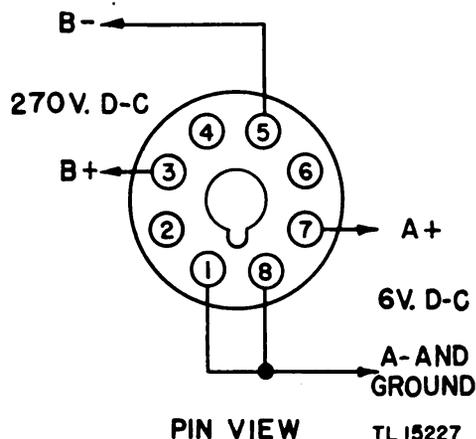

Figure 3. Radio Receiver BC-787-B, wiring diagram for d-c power plug.
**a. A-c Operation.** The receiver may be operated from either a 115-volt or 230-volt, 50/60-cycle, a-c power source. Check the setting of switch SW10, shown in figure 4, and see that it is set for the line voltage to be used. If the set is to be operated from an a-c line, plug PL2 (furnished wired as shown in figure 22) must be in socket S01 located on the rear apron of the chassis. This is necessary to provide continuity in the power circuits (figs. 3 and 22).
**b. D-c Operation.** The receiver may be operated from external batteries delivering 6 volts at 4.5 amperes and 270-volts at 145 milliamperes. If such operation is desired, connect the batteries to the unwired duplicate of plug PL2 (furnished as an accessory) as shown in figure 3. This plug should then replace plug PL2 in socket S01.